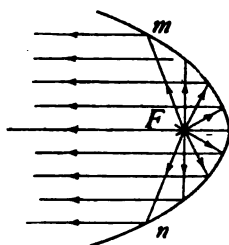

FIG. 365.—Parabolic mirror.
**374. Parabolic Mirrors.**—The best possible surface to give to concave mirrors is parabolic. This is a curve which may be generated by moving a point so that its distance from a fixed point and a fixed line are always equal. If a source of light is placed at  $F$  the rays after reflection are rendered parallel. See Fig. 365. This reflector is used in automobile lamps, headlights of locomotives, search-lights, etc. It is also used in large reflecting astronomical telescopes to collect as large an amount of light as possible from distant stars and bring it to a focus. Such mirrors may be made exceedingly accurate.